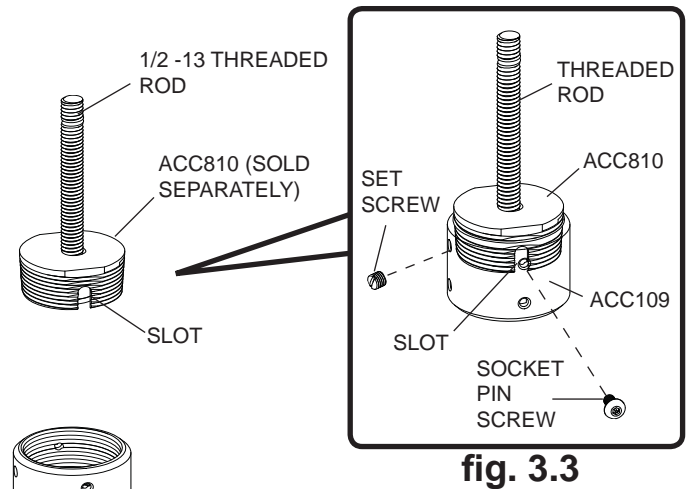

fig. 3.3
**3** Screw threaded rod adapter (**ACC810**) into extension column connector (**ACC109**). Align slot in threaded rod adapter with one of the top holes in extension column connector. Insert and tighten one #10-32 x 3/8" socket pin screw provided with extension column connector through extension column connector into slot on threaded rod adapter using 4 mm security allen wrench (**G**). See figure 3.3.